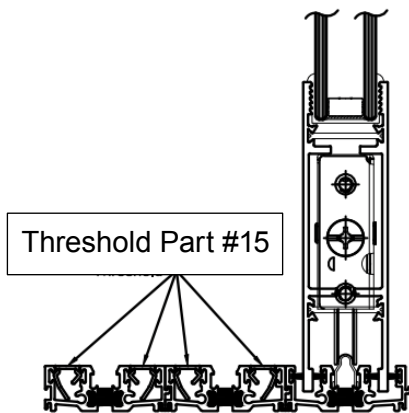
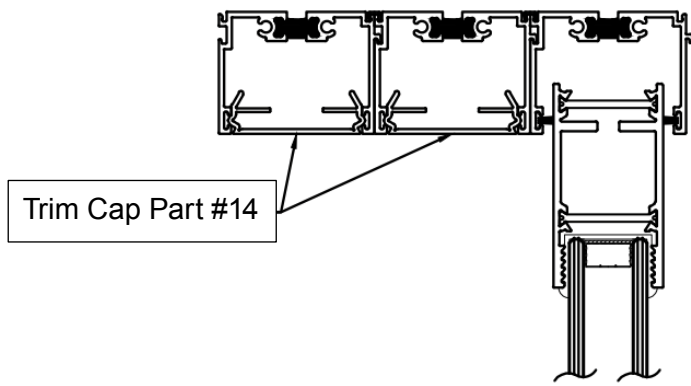

FIGURE 22A
FIGURE 22B
26. Install thresholds (Part #15) into the exterior and center sill tracks (Part #12) shown in figure 22a and the trim cap (Part #14) of the same length into the exterior and center head tracks (Part #10) shown in figure 22b.